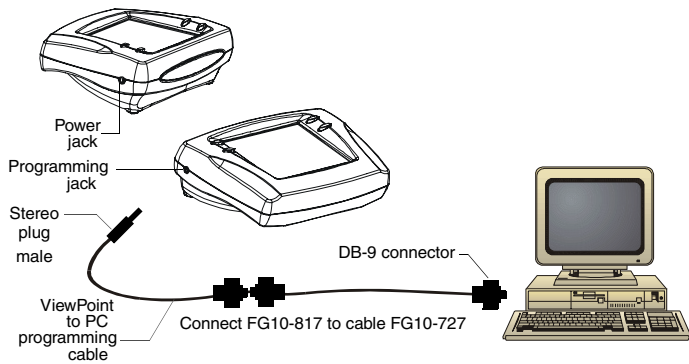

FIG. 2 ViewPoint connectors
All ViewPoints have two connectors (FIG. 2). The power jack is for connecting an external 12 VDC power supply for ViewPoint operation and charging. The programming jack is used for communication between the ViewPoint touch panel and TPDesign3. The programming jack uses a three-wire, 2.5 mm stereo jack. The required cable and power supply comes furnished with the ViewPoint.
3. Connect the female DB-9 terminal end of the extension cable to the port on the back of your computer (FIG. 2) and configure the communication parameters in TPDesign3.